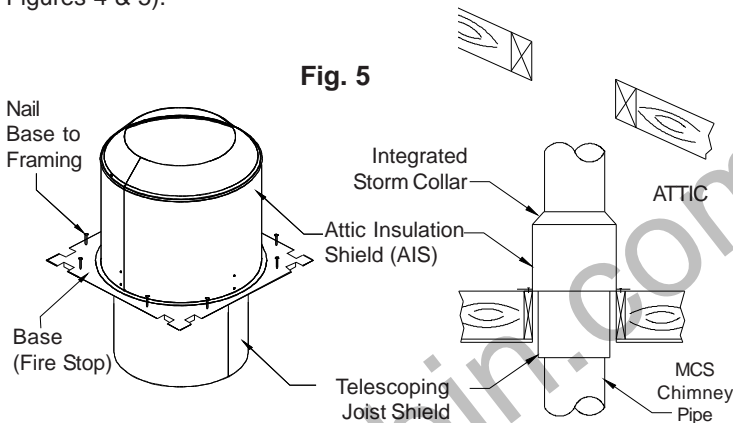

Fig. 5
5. Attic Insulation Shield (AIS or AIS-R), used wherever a Ceiling Support, Finish Support, or Fire Stop is installed below an open attic (see Figures 5, 7 and 8).